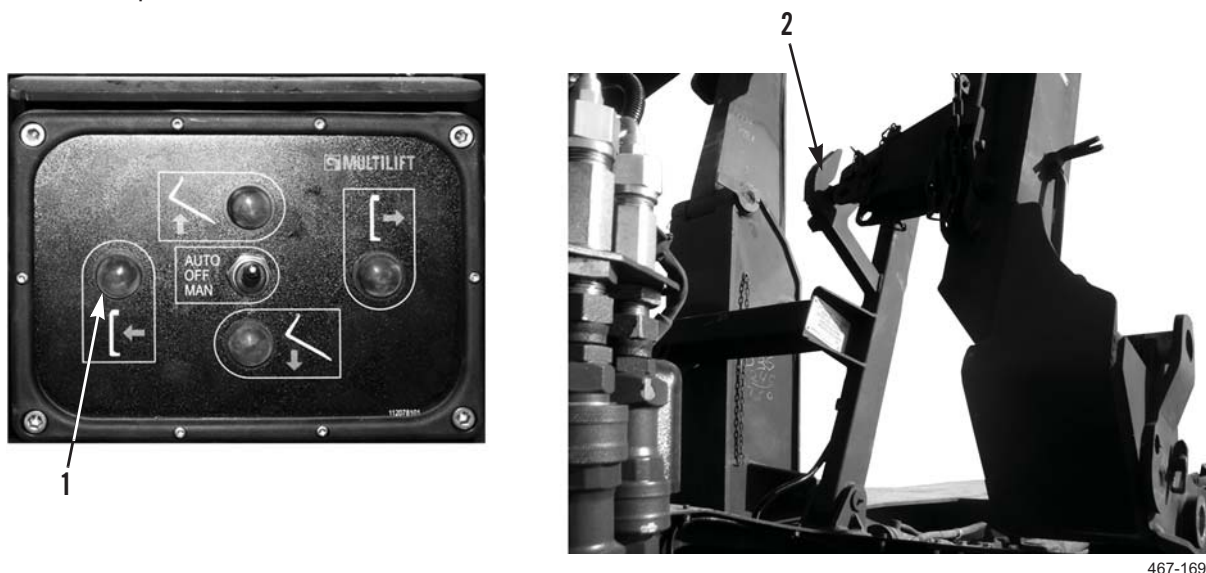

Figure 44. Stowage Guide at Intermediate Position.
14. Press and hold STOW button (Figure 44, Item 1). As soon as stowage guide (Figure 44, Item 2) stops at its intermediate position, release button.